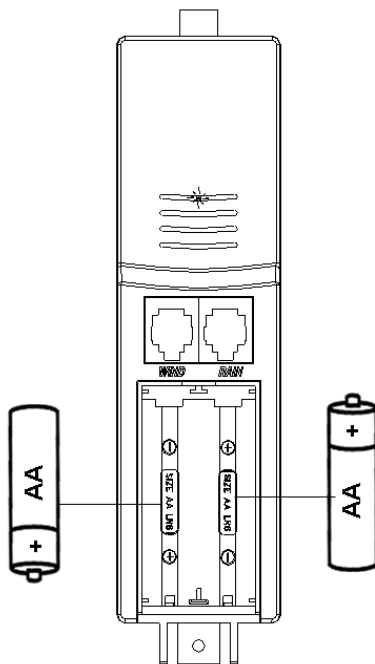

Figure 4
2. Remove the battery cover of the transmitter, and insert 2 x AA batteries into the battery compartment, observing the polarity, as shown in Figure 4. Confirm the red LED above the battery compartment turns on for four seconds, then off. The LED will flash every 48 seconds thereafter, signifying wireless transmission. Close the battery door.